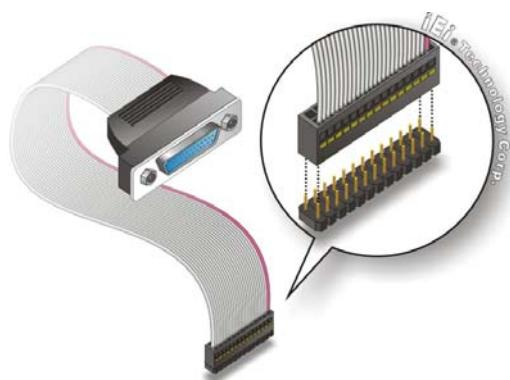

Figure 5-11: LPT Cable Connection
Step 2: Align the connectors. Correctly align pin 1 on the cable connector with pin 1 on the PCIE-9452 LPT box-header connector. See Figure 5-11.
Step 3: Insert the cable connectors Once the cable connector is properly aligned with the 26-pin box-header connector on the PCIE-9452, connect the cable connector to the onboard connector. See Figure 5-11.